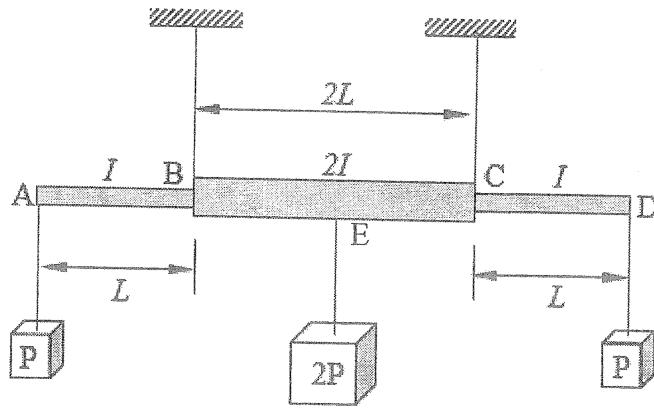

Fig. Q4
b) An arrangement of a beam set-up in a children park to support some playing equipment is shown in Fig. Q4. ABCD is a steel beam hanged at points B and C. Playing equipment are attached to the beam at free ends (i.e. A and D) and mid-span (i.e. E) with magnitudes P and 2P respectively. The cross section of the beam is varied along the length as indicated in Fig. Q4. Take young modulus of steel as E.